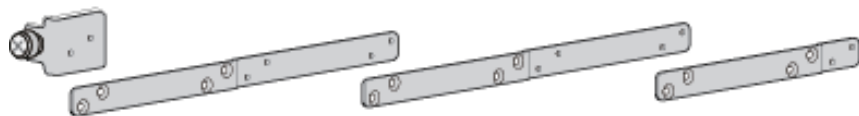

Figure 14. Extension Bracket Configurations
You adjust the lengths of the brackets by connecting them in different combinations. There are seven possible configurations. Refer to Figure 14. The default configuration is number 5. To adjust the extension brackets, perform the following procedure:
1. Review Figure 14 to find the bracket length that most closely matches the measurement taken in step 3 in the previous procedure.